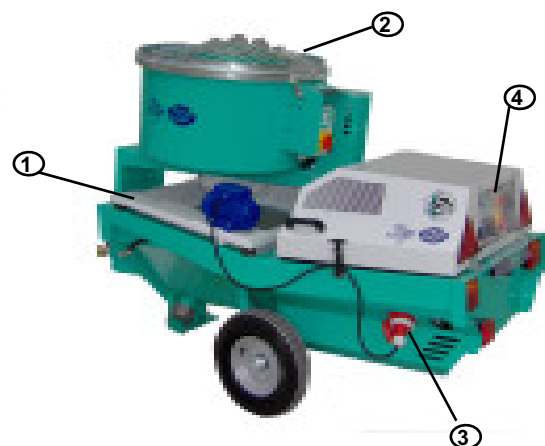

FIG 2
STEP 120 can also be fitted with a planetary mixer (optional) (ref.12) to enable rapid and efficient mixing of pre-mixed and traditional mortars, thereby creating an autonomous integrated mixing and pumping unit).
- VIBRATING SCREEN (fig2)